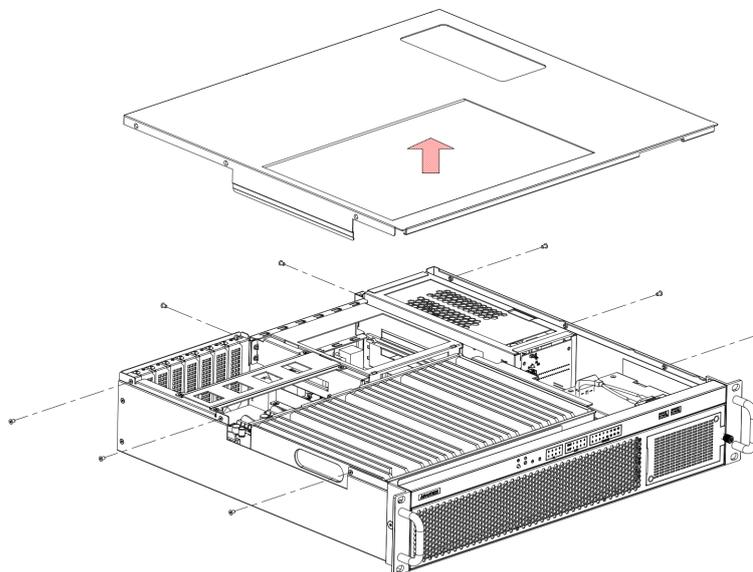

Figure 2.10 Open the Chassis
2. Remove the screws shown in Figure 2.10 to open the chassis.
1. Remove the screws shown in Figure 2.10 to open the chassis.